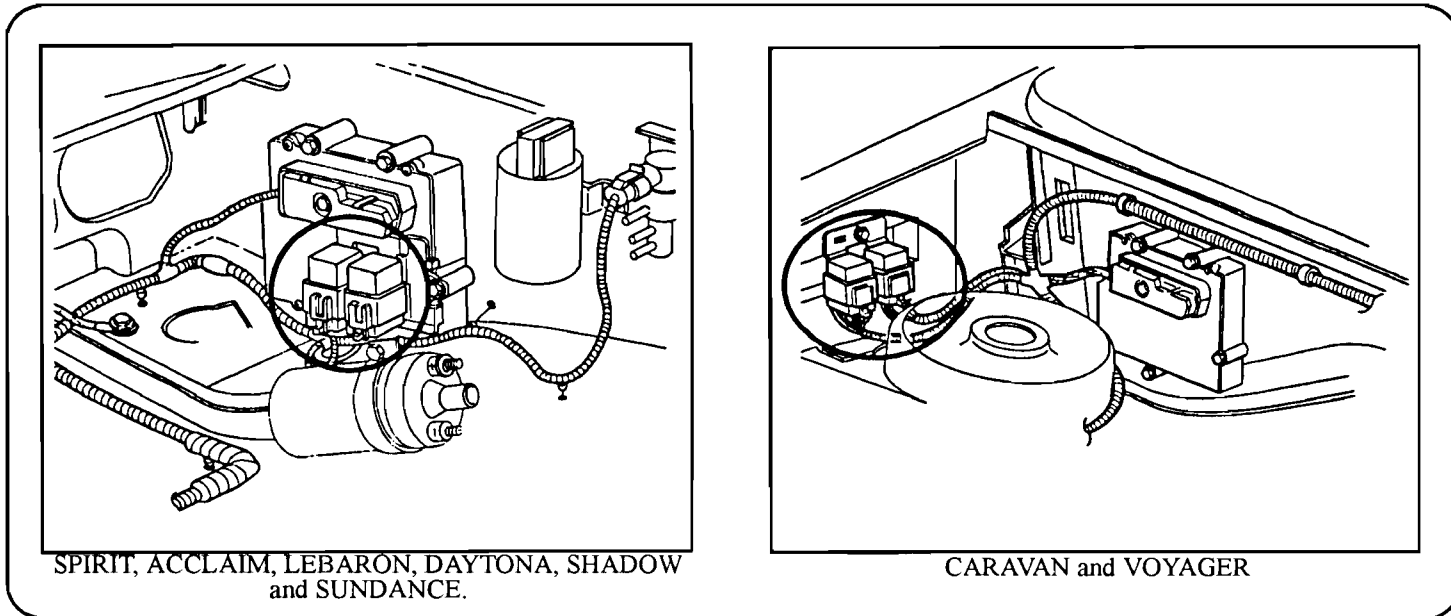
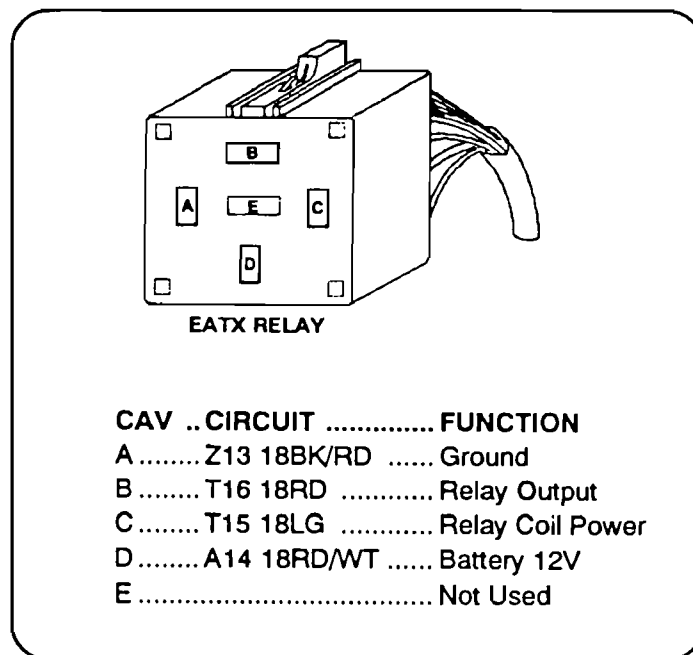

Figure 16
Figure 17
- (1) Locate the EATX relay location by using figure 16 and refer to figure 17 for cavity identification.
- (2) Carefully bend the EATX relay bracket to gain access to back probe the connector. **NOTE:** FOLLOWING TEST CANNOT BE MADE WITH CONNECTOR REMOVED.
- (3) Using a volt meter set to DC volts, take the positive lead and carefully back probe the D terminal (Red with white stripe wire). Place the negative lead onto the ground post of the battery. Battery voltage should be seen here with ignition switch either on or off. If no voltage appears, inspect and repair the wiring for an open or a blown fusible link. If there is battery voltage, go to step 4.
- (4) Using an OHM meter, take the positive lead and carefully back probe the A terminal (Black with red stripe wire) and put the negative lead to a good ground. If you have good continuity, go to step 5. If there is no continuity, the wire coming out of terminal A has a bad ground. Repair the ground wire coming out of terminal A and repeat this check to insure that you have good continuity.